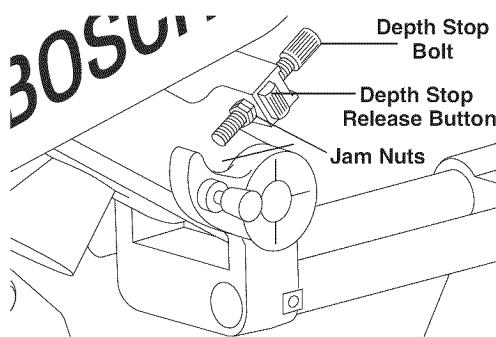

Figure 33. Cutting Grooves
- For major adjustments, press the depth stop release button and slide the depth stop bolt to the desired location (Figure 33).